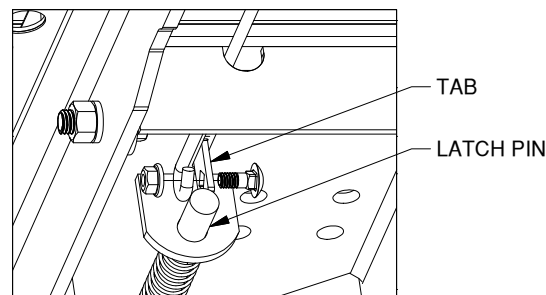

Figure E2: Handle Installation
- 2. Secure the handle.** Secure the handle to the pin with the 5/16" X 3/4" carriage bolt and 5/16" locking flange nut, see Figure E2. Note: The included 5/16" cap screw can replace the carriage bolt if wrench access on the "cab side" of the handle is limited. Tighten the nut until it is secure. Do not over-tighten and deform the handle eyelet.